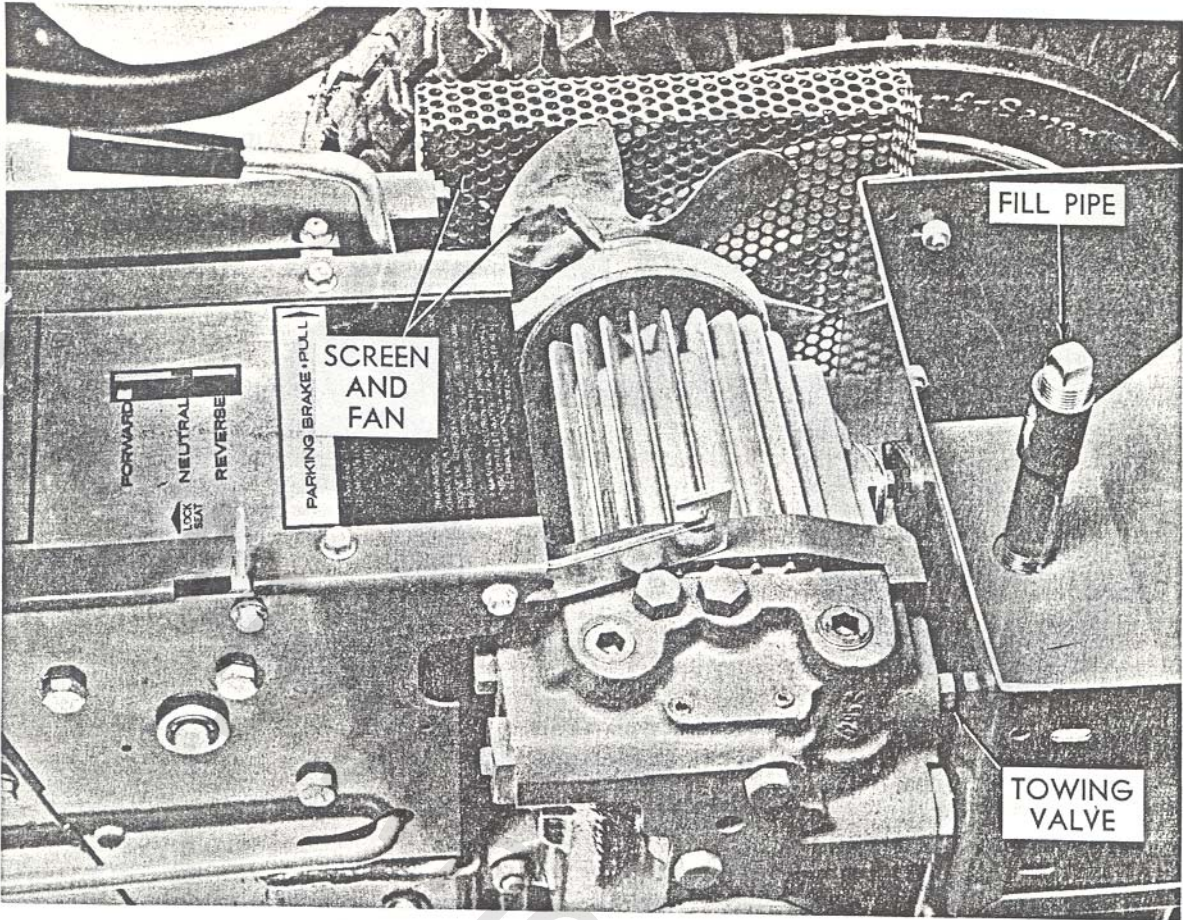

Figure 1
A. The towing valve is located on the back surface of the pump (See Figure 1.) To push or tow open the towing valve, using a $\frac{1}{2}$ " wrench. Be sure to retighten the valve gently, but securely, before operating tractor. **NOTE: This is a needle valve and must not be over tightened.**
B. **CAUTION:** Do not tow for long distance or over a speed of seven (7) miles per hour.